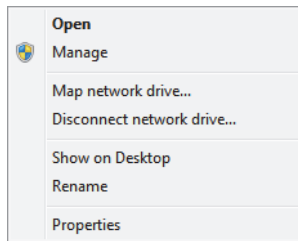

Figure 7-24 The shortcut menu for the Computer icon (Windows 7)
2. On the shortcut menu, click **Manage** (see Figure 7-24 on page 215).